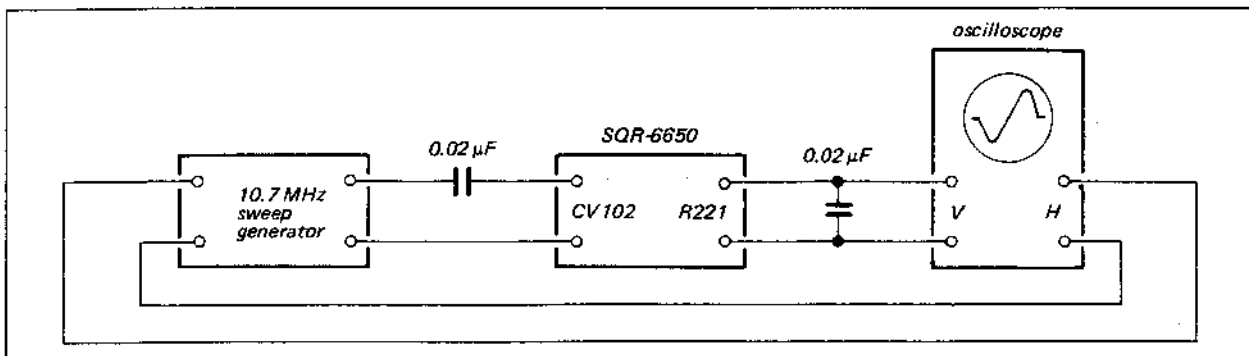

Fig. 3-5. Discriminator alignment test setup by sweep generator
1. With the equipment connected as shown in Fig. 3-5, set the sweep generator controls as follows: